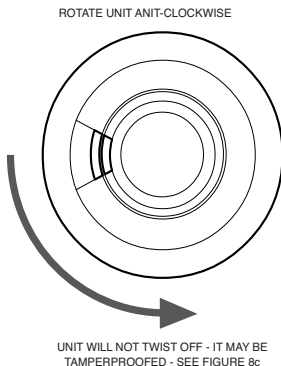

Figure 5
2. Remove the mounting plate from the Smoke/Heat Alarm by twisting it in an anti-clockwise direction (see Figure 5).